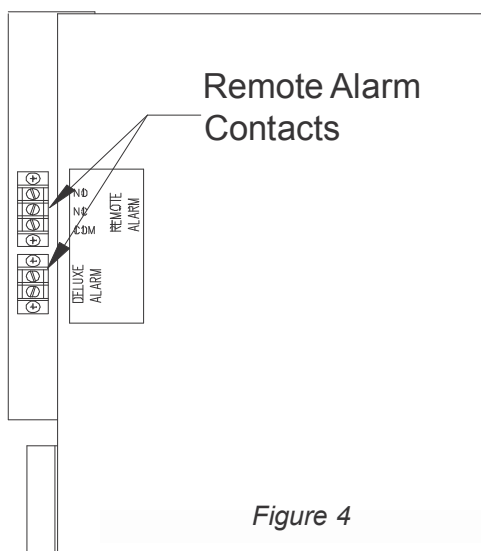

Figure 4
All contacts are capable of switching up to 24 volts AC/DC @ 2 amps. The common (C) and normally closed (NC) contacts open during an alarm. The common (C) and normally open (NO) contacts close during and alarm. The contacts for the Deluxe Remote Alarm are normally closed and open during and alarm. Figure 4 shows the location of the remote and deluxe alarm contacts.